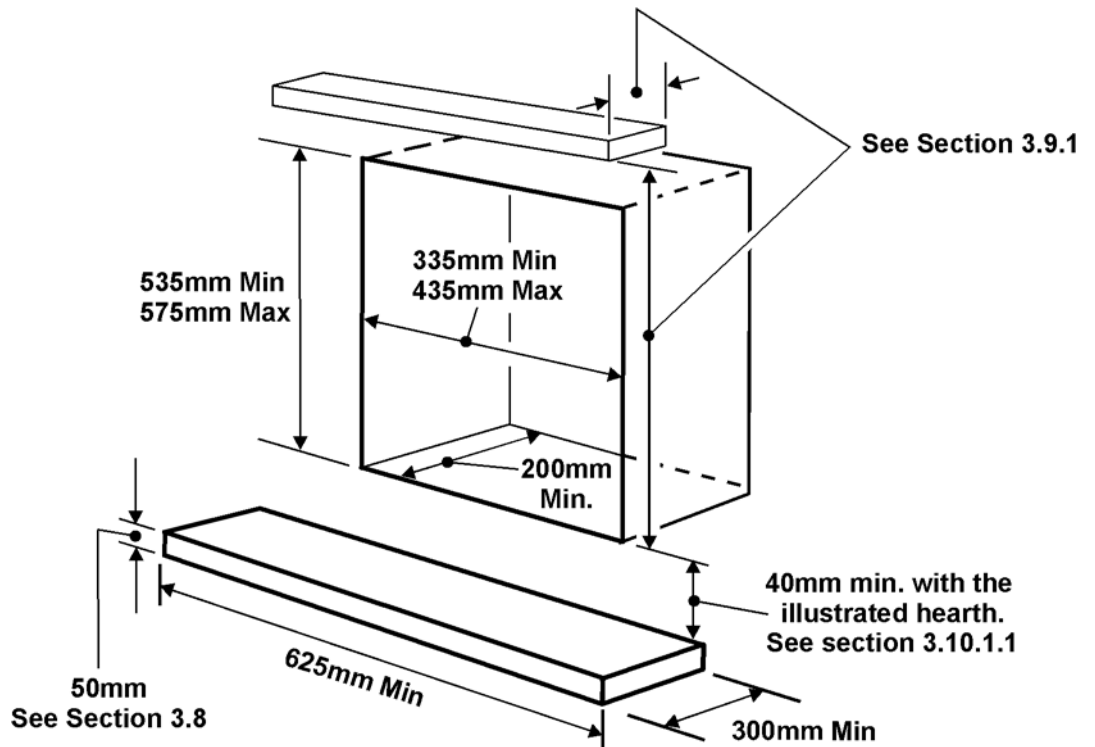

Figure 4. Hearth and fireplace opening dimensions
To a fireplace complete with hearth as shown in figure 4. Chair brick removal may not be required providing at least 50mm clearance is available from the flue outlet to any fireplace component.
- It is recommended that a hearth should be installed as in figure 4.